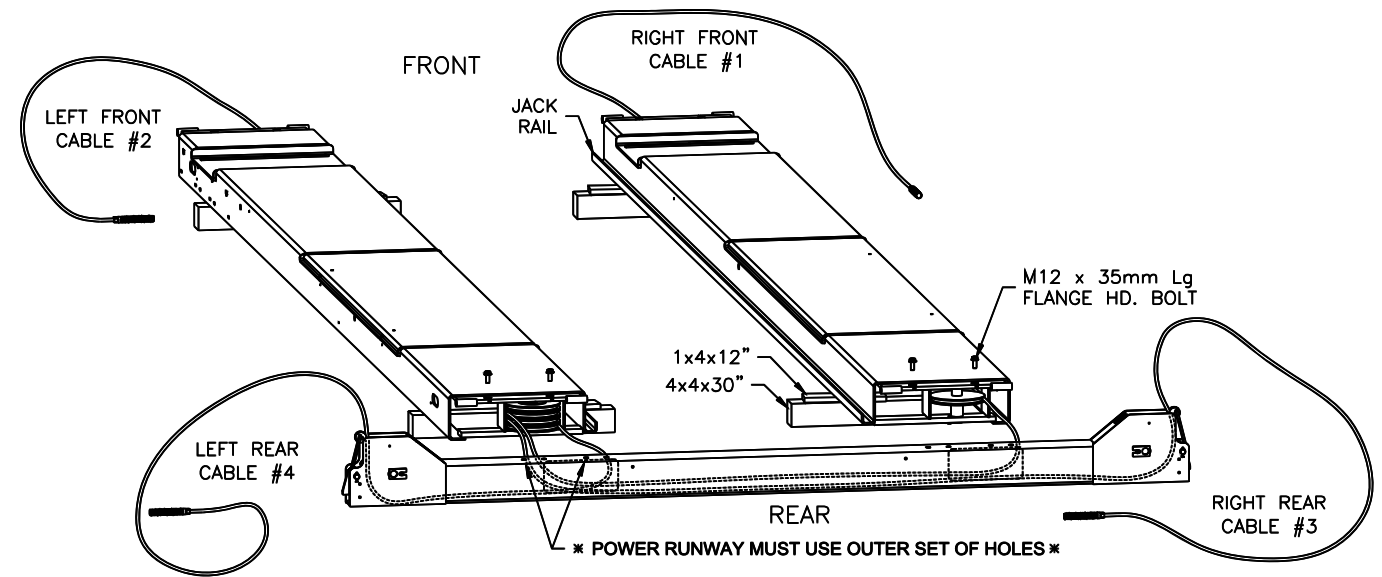

Fig 4 – Runway Layout
- 3) Position runways on blocking (see Fig 4) per layout lines established in step 1. Use four 30"
long 4x4's spanning the width of the runway and four 12" long 1x4's to shim up the jack-rail side of the runway. Cable #1, #3, & #4 should be extending out from the rear of the power runway and cable #2 from the front of the power runway, Fig 4.
- 4) Reach in through either of the access holes in the rear cross beam tube and pull out the roll of 1/8" dia. plastic air line connected to the air cylinder at the end of the cross beam. Repeat for opposite access hole and position the cross beam near the end of the runways as in Fig 4.
- 8) Attach the rear cross beam to the runways (Fig. 4) with M12 x 35mm lg. flange head bolts being careful not to pinch the air line. Leave the air lines hanging out the bottom of the cross beam access holes at this time, they will be fed in through the runway after the lift is raised. **The outermost runway slots should be in line with the outermost holes in the top of the cross beam, see Fig. 4.** Do not torque bolts yet.